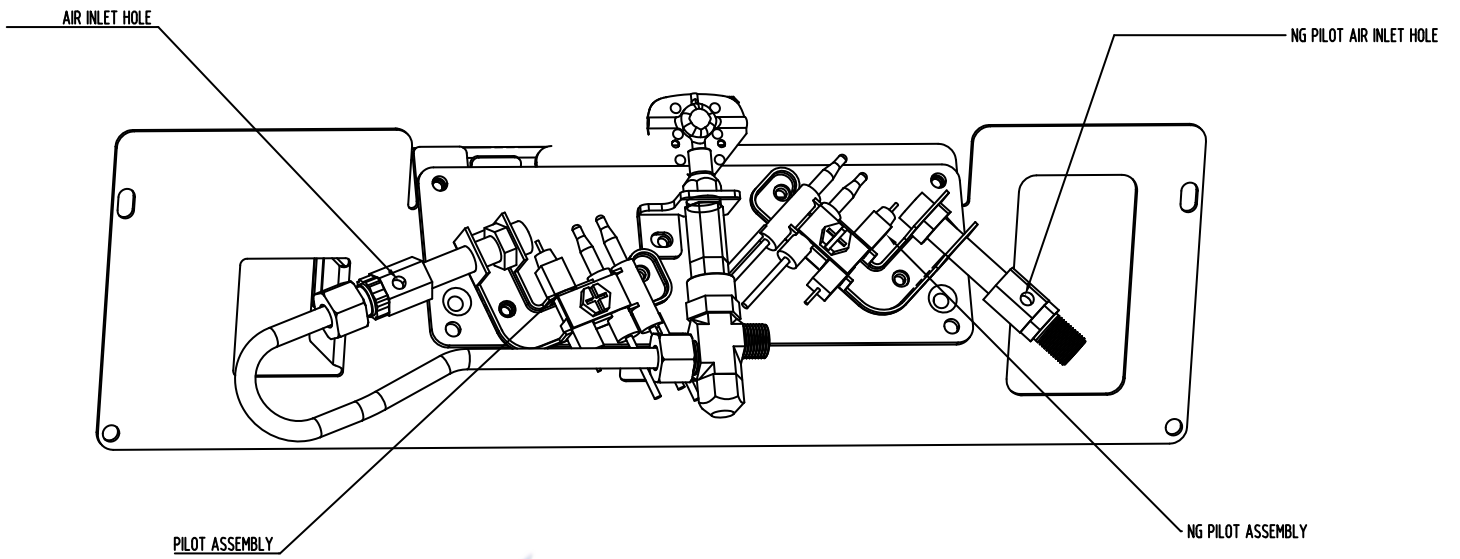
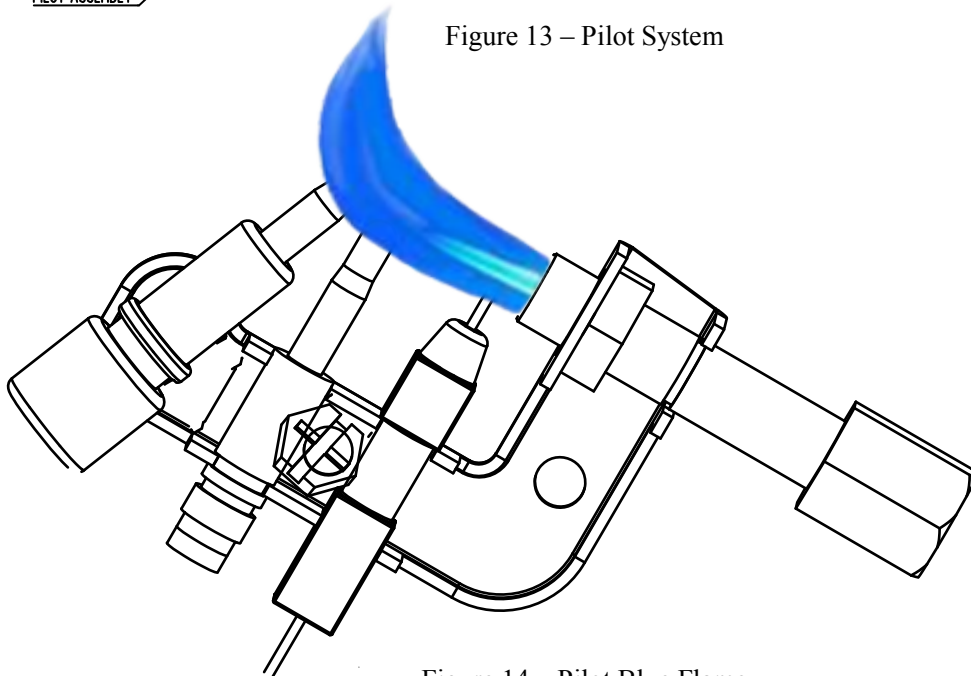

Figure 13 – Pilot System
Figure 14 – Pilot Blue Flame
Check pilot flame pattern and burner flame pattern often (see Figure 13 and Figure 14 for reference).
Two pilot burners with ODS function for NAT and LP gas respectively are installed on burners two sides separately as shown in Figure. 13. The normal ODS pilot flame should have a correct pattern as shown in Figure 14 in normal operation with exception during ignition stage.
3. Blow air through the ports/slots and holes in the burner. Also clean the pilot assembly. A yellow tip on the pilot flame indicates dust and dirt in the pilot assembly. There is a small pilot air inlet hole about two inches from where the pilot flame comes out of the pilot assembly (see Figure 13). With the unit off, lightly blow air through the air inlet hole. You may blow through a drinking straw if compressed air is not available.